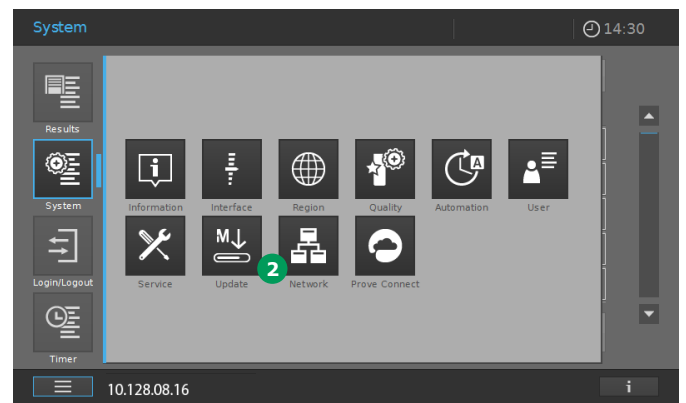

Figure 13 - Screen of Spectroquant® Prove / Prove plus after clicking on "System"
1. To configure the network in the Spectroquant® Prove switch to "Network" ② (Figure 13) on the Prove's System screen.